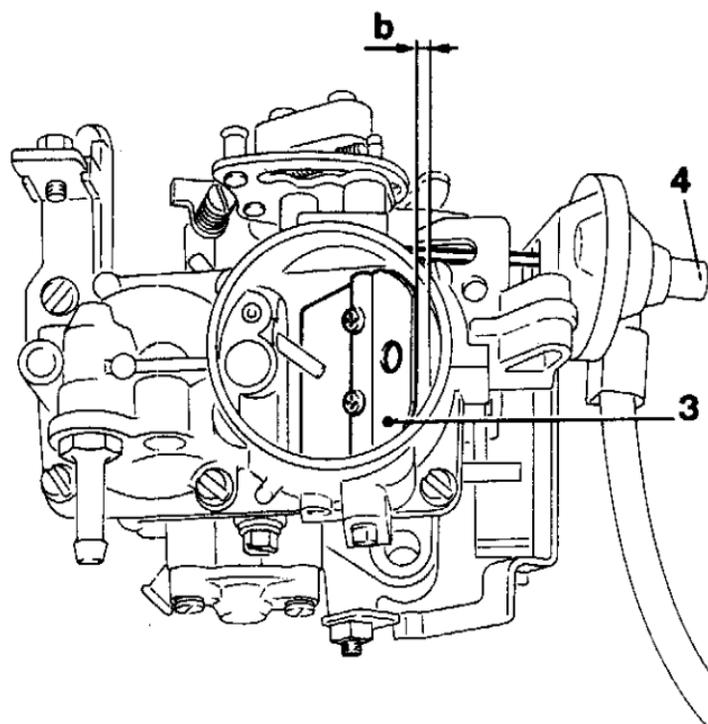

Fig. 14.7 Choke vacuum pull-down adjustment (Sec 4)
33 Remove the plug in the diaphragm cover and adjust as necessary by turning the adjustment screw (4) in Fig. 14.7 in the appropriate direction. Renew the plug when adjustment is complete.